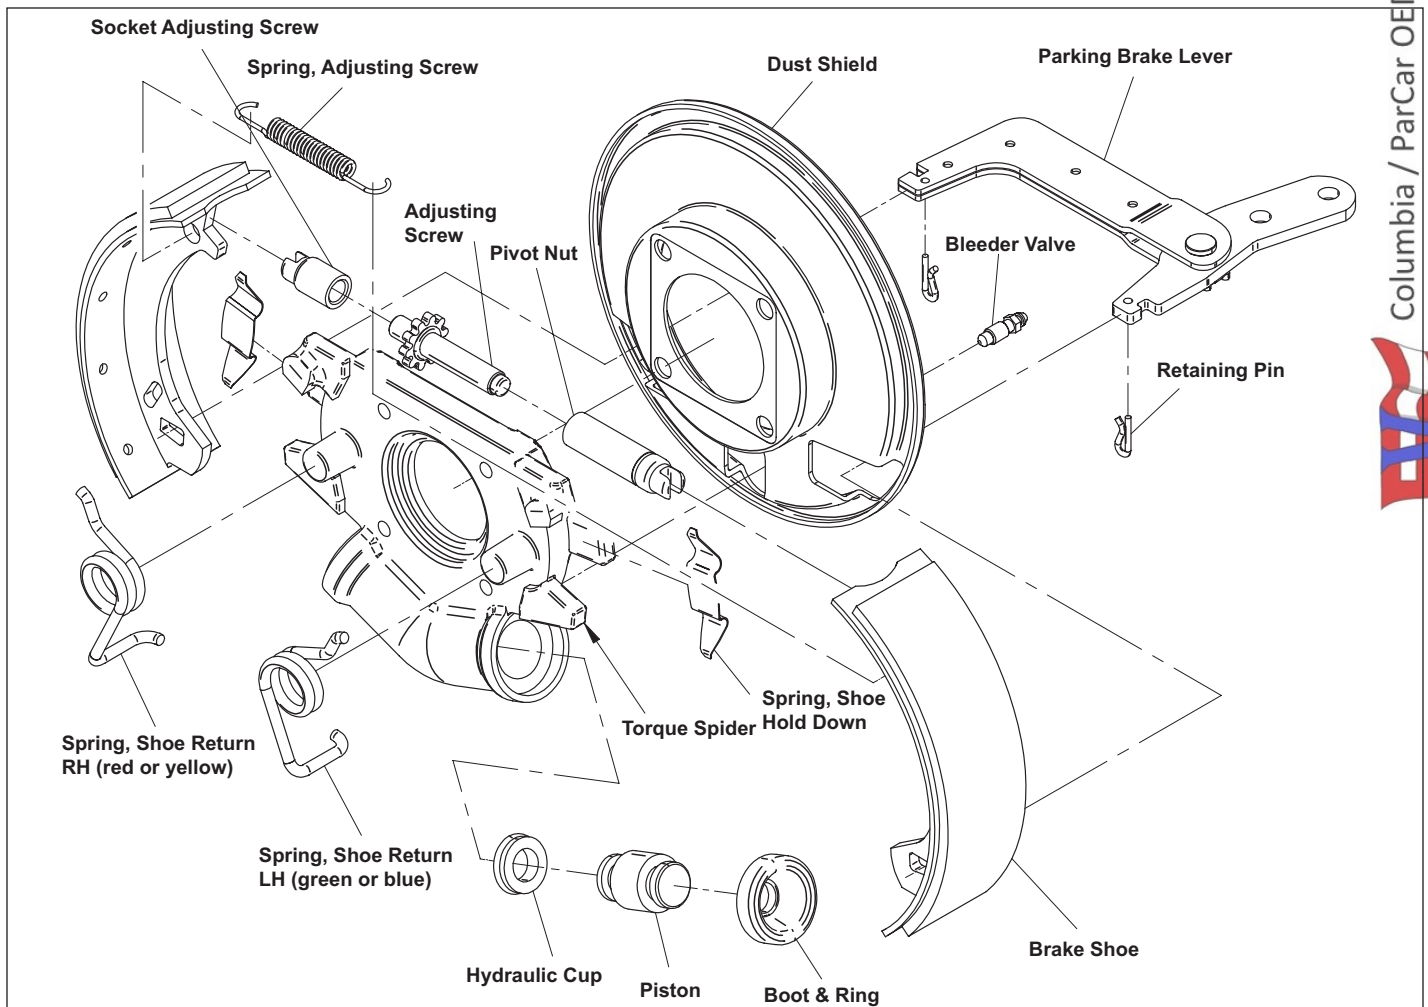

Figure 5-7. Rear Hydraulic Brake Assembly
- Refer to Figure 5-7 for steps 3 - 6.
- Refer to Figure 5-7 for reassembly.